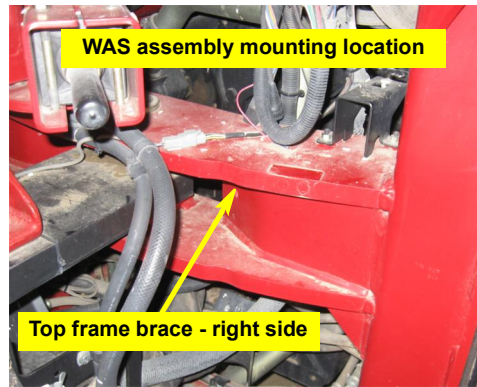

Figure 2a: WAS assembly mounting location
- a. Locate the top frame brace near the articulation point of the tractor. You will mount the WAS assembly on the right side of the articulation point (Figure 2a).